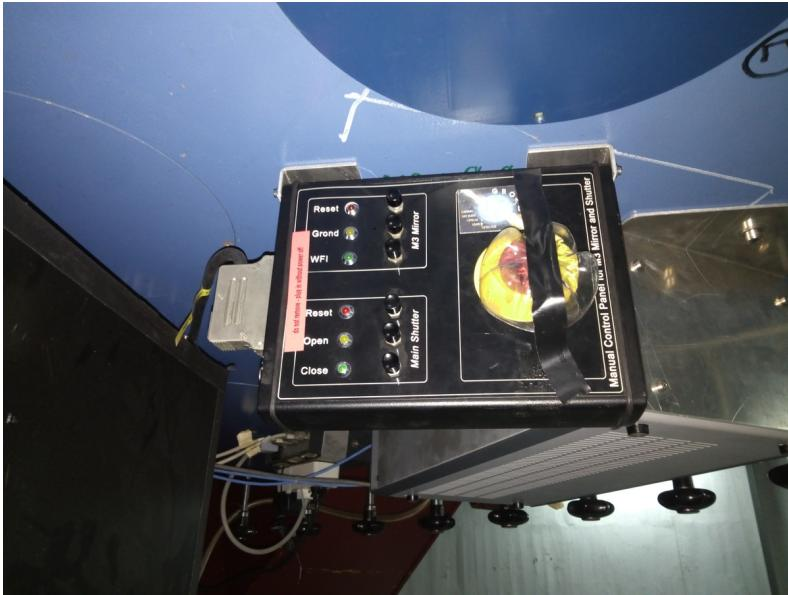

Figure 10.11: The GROND M3 mirror and main cover control box.
- B. On the box (Fig. 10.11, p. 91), press the grondM3 WFI button.